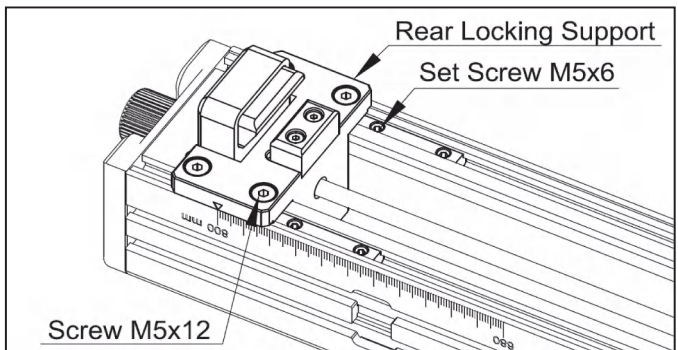

Fig. 6-16
- (1). As shown in Fig. 6-16, flip the Fence Assembly (C) upside down and loosen the four M5x12 screws on the Rear Locking Support and four M5x6 set screws as indicated.
- (2). Move the Rear Locking Support until the pointer aligns with the correct scale indicating the table width and then tighten the previously loosened screws.